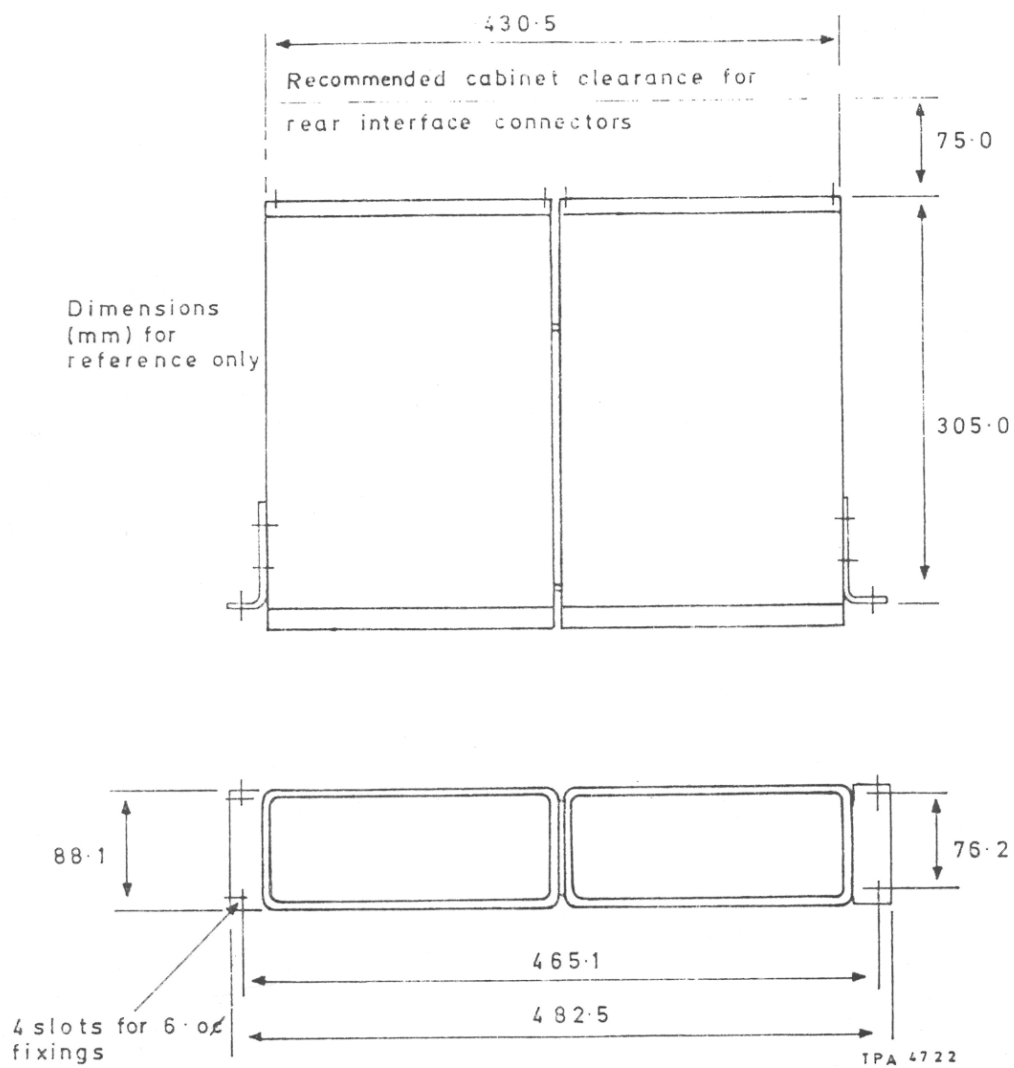

Fig. 2 Dimensions (in mm) of twinned rack mounting units
(1) For rack mounting the 6960 RF power meter on its own, a single unit rack mounting kit 46883-638P is available. This contains a pair of side angle plates wide enough to allow the instrument to sit centrally within the rack frame.
(2) For rack mounting the RF power meter side by side with another similar instrument, a double unit rack mounting kit 46883-536P is available. This kit contains fixings for joining the two instruments together and for attaching the twinned unit to the rack (see Figs. 2 and 3).
(3) When the RF power meter is to be rack mounted on its own but provision retained for possible side by side mounting with another similar instrument, a blank frame unit 46883-537X is available. This is in addition to the double unit rack mounting kit and takes the place of the other instrument.
(4) Before assembling the double unit kit prepare the instrument(s) for rack mounting as follows:-